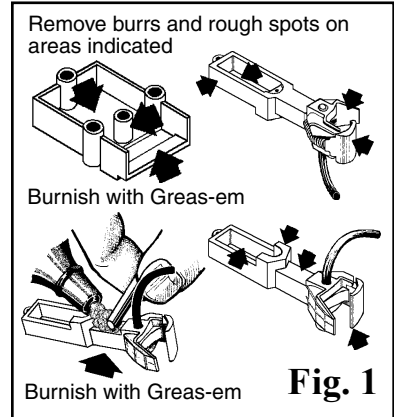

Fig. 1
1. To ready the coupler height gauge for use, prepare all parts by removing flash and burrs. Areas designated with arrows (see Fig. 1) indicate points where burrs may be encountered in the draft gear box, on the coupler shank and draft gear cover plate. Burnish these places with round end of a small twist drill (or file) to smooth away flashing and polish the surfaces. Assemble the